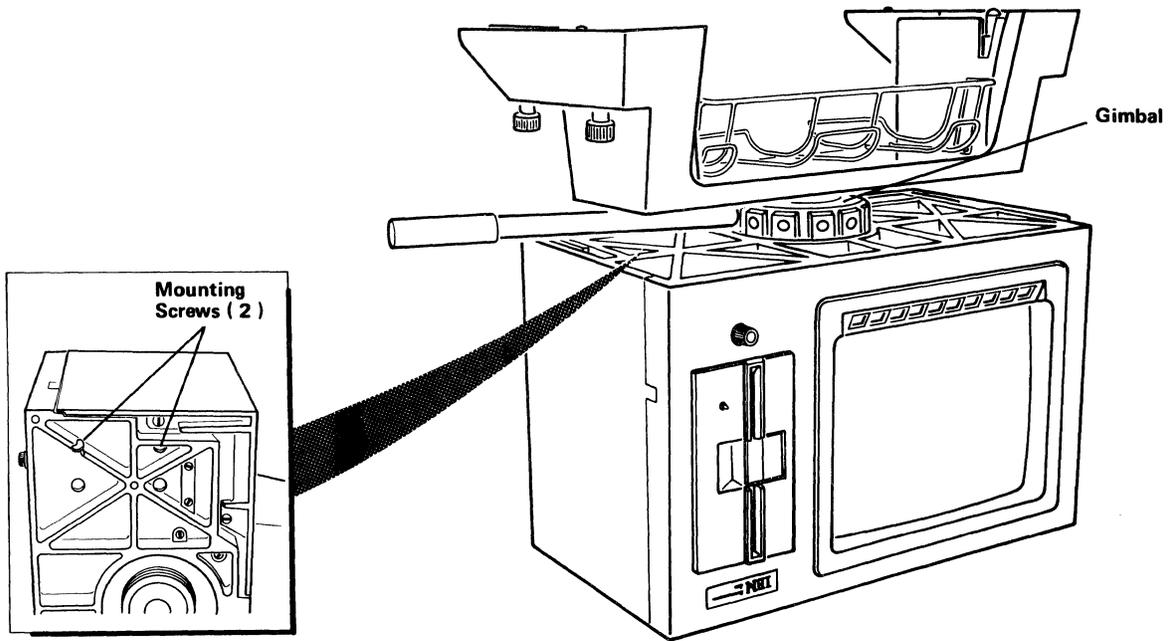

Figure 4-32. Diskette Mounting Screws.
6. Carefully place the entire assembly upside down on a flat surface so that the two (2) diskette mounting screws under the unit are visible (See Figure 4-32). It may be necessary to loosen the gimbal and rotate the bridge to gain access to the mounting screws.
3. Align the bridge assembly to the same position it was in when removed from the processor unit and tighten the gimbal (See Figure 4-32).